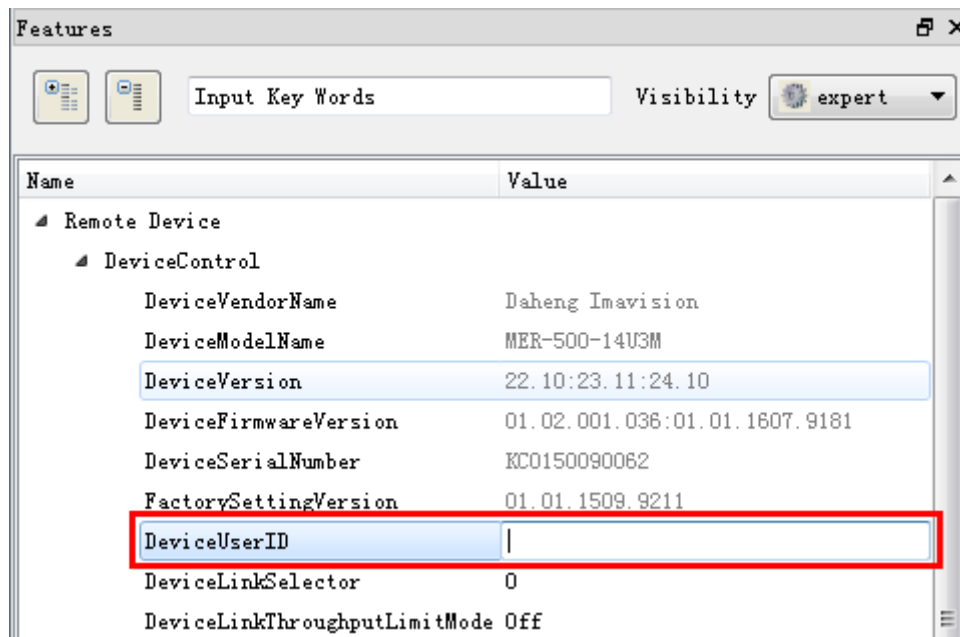

Figure 8-25 GalxyView software
- 1) Set by the GalxyView, as shown in the Figure 8-25.